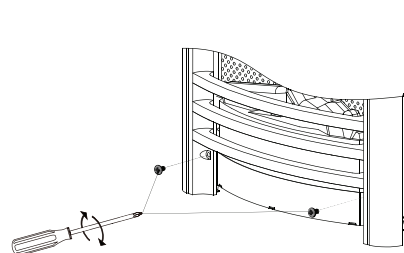

Fig.16
5. Now fit the Fireframe and screw in the two retaining screws (supplied) at the bottom of Fireframe behind the ash pan cover. (Fig.16) Take care not to scratch the back panel.